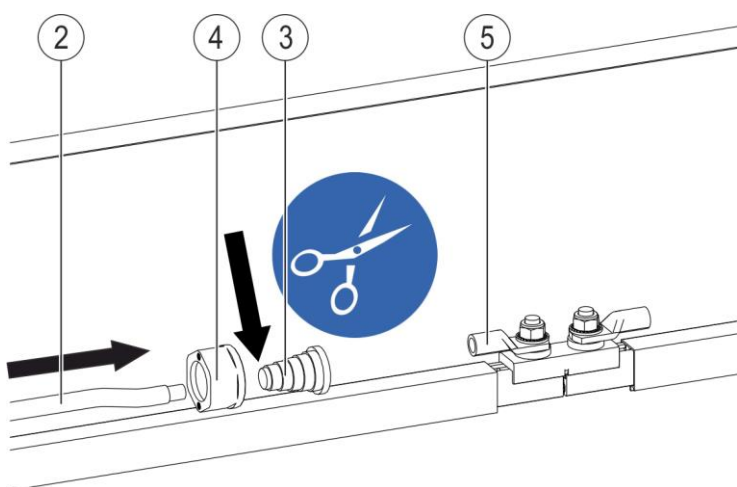

Fig. 85: Slide the cable ends through the grommet
- Place the nuts (Pos. 4) over the ends of the connecting cable (Pos. 2) (see Fig. 85).
- Cut rubber grommets (Pos. 3) according to the cable diameter and slide the stripped ends of the connecting cable (Pos. 2) through the grommets (one-sided or two-sided connection possible) (see Fig. 85).